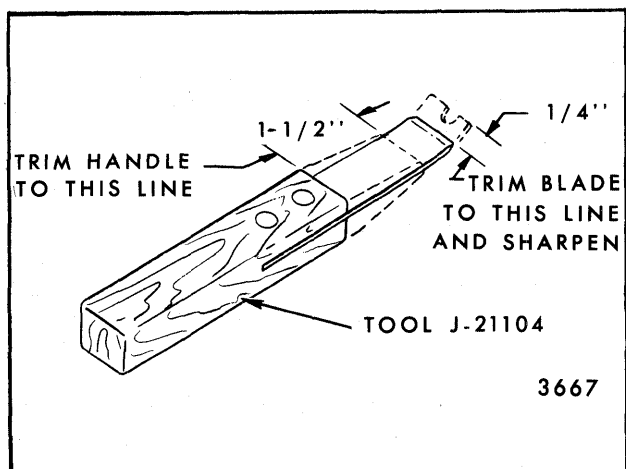

Fig. 5-12-Weatherstrip Removal Tool
1. Use a flat-bladed tool to break cement bond between door and weatherstrip. A tool applicable to this usage can be fabricated from tool J-21104 or equivalent (Fig. 5-12). On all styles, weatherstrip adhesive is used for a distance of 9" on door lock pillar and the entire length of the front door
3. Using a flat-bladed tool such as a putty knife, or side roof rail weatherstrip removal tool (or equivalent) as described in Figure 5-12, carefully